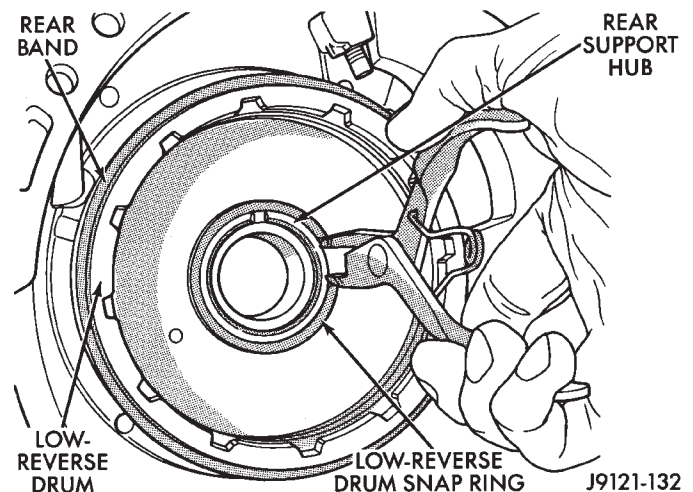

Fig. 98 Low-Reverse Drum Snap Ring
(21) Install and tighten rear support bolts to 17 N·m (150 in. lbs.) torque.
(22) Install snap ring to retain low-reverse drum to hub of rear support (Fig. 98).